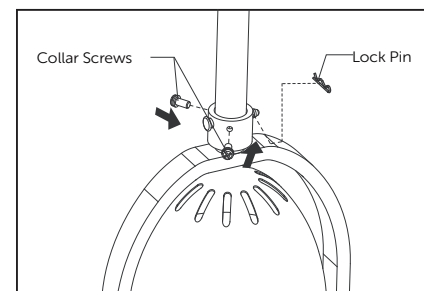

Fig. 6
6. Insert and tighten the two collar screws. Slide lock pin into hanger pin until it is locked into position (Fig. 6).